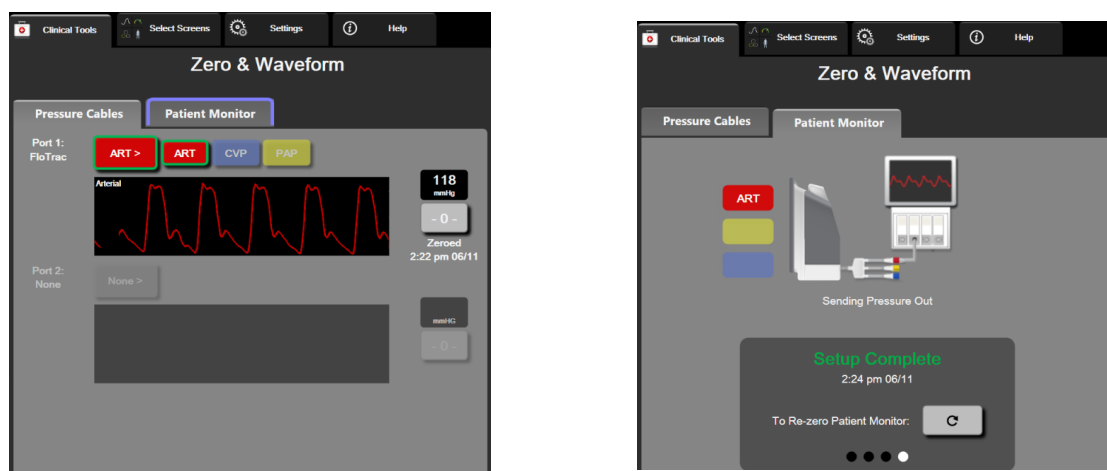

Figure 10-2 Zero & Waveform screens – Zero sensor and Pressure-Out
- 5 Touch the **Transmit Waveform** icon  to begin pressure signal output to the patient monitor. A “**Setup Complete**” message will be displayed when the live waveform is being transmitted to the connected patient monitor. See right screen shown in figure 10-2 on page 172.